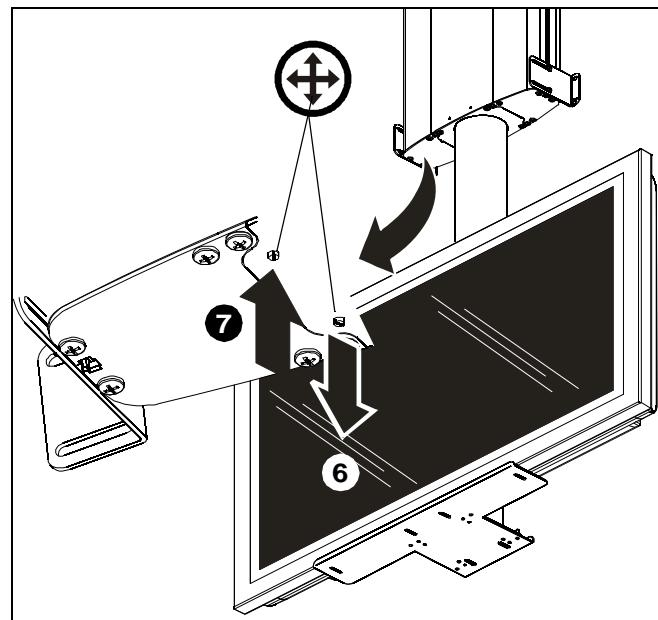
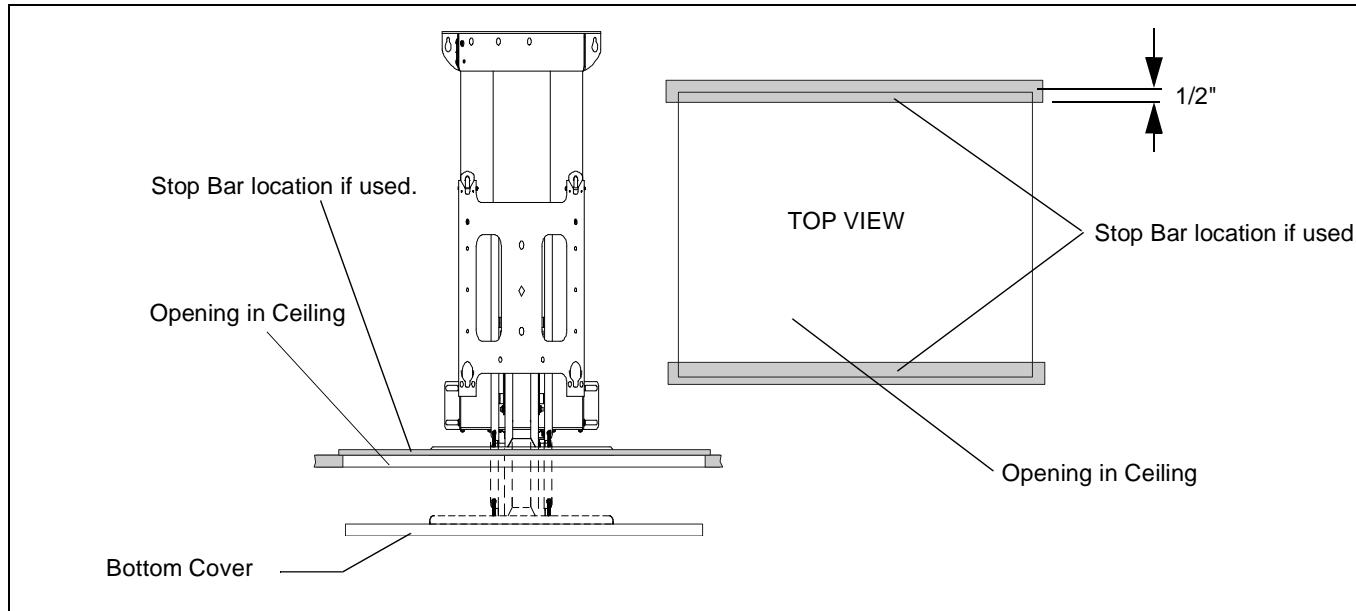

Figure 26
Figure 27
of travel must be considered when location the mount and a stop bar must be installed along the top edge of the opening in the ceiling. The stop bar must span the entire width of the front and back openings, and protrude outward into the opening a minimum of 1/2". See *Bottom Cover Location Adjustment* on page 14 and See (See figure 27)
There is an upward travel limit adjustment screw and a downward travel limit adjustment screw located on the top right hand side of the mount. (See figure 27)
8. Adjust travel until bottom cover is flush with ceiling. (See figure 26) and (See figure 27)